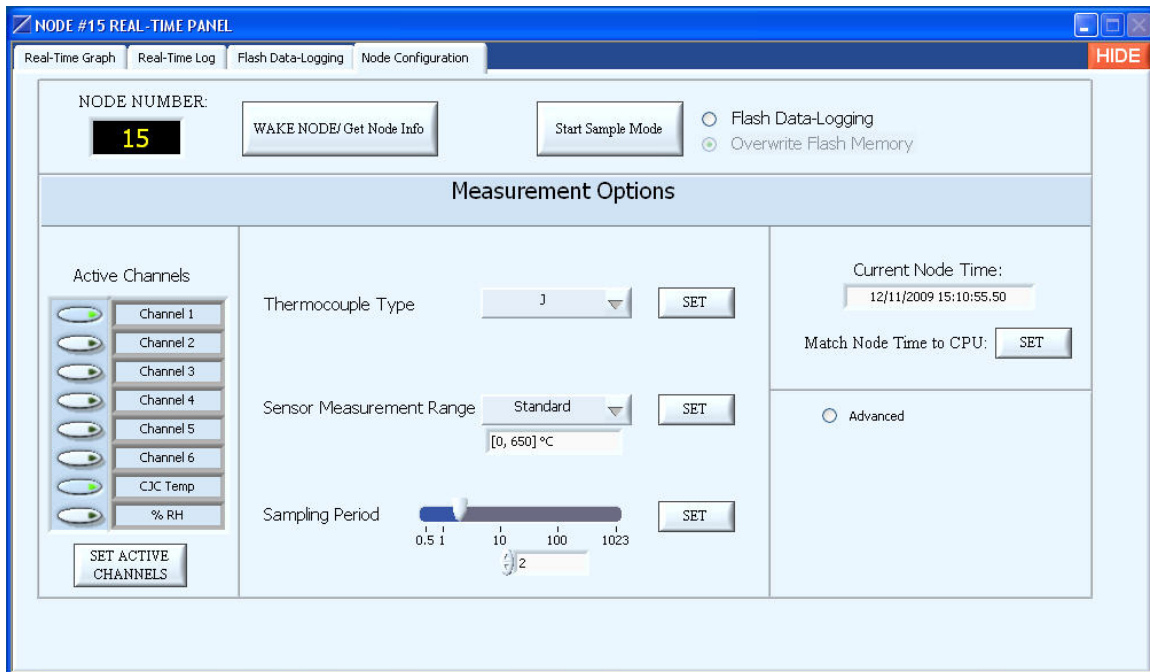

Figure 7
- The actual configuration (default from factory) of the TC-Link® is now reported. See Figure 7.